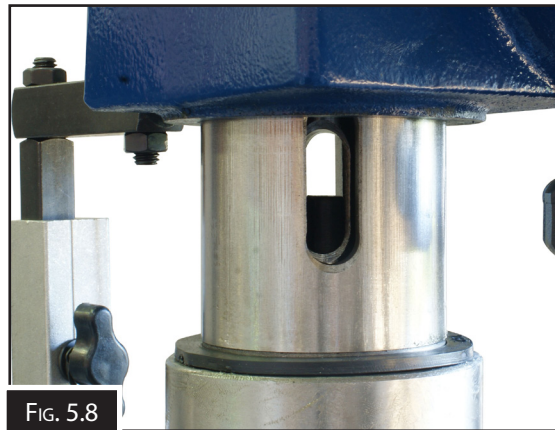

FIG. 5.8
2. Rotate the spindle handles until the drift-key slot is exposed in the side of the quill. (Fig. 5.8)
5. Rotate the spindle until the inner drift-key slot is aligned with the outer slot, as shown (Fig. 5.8).